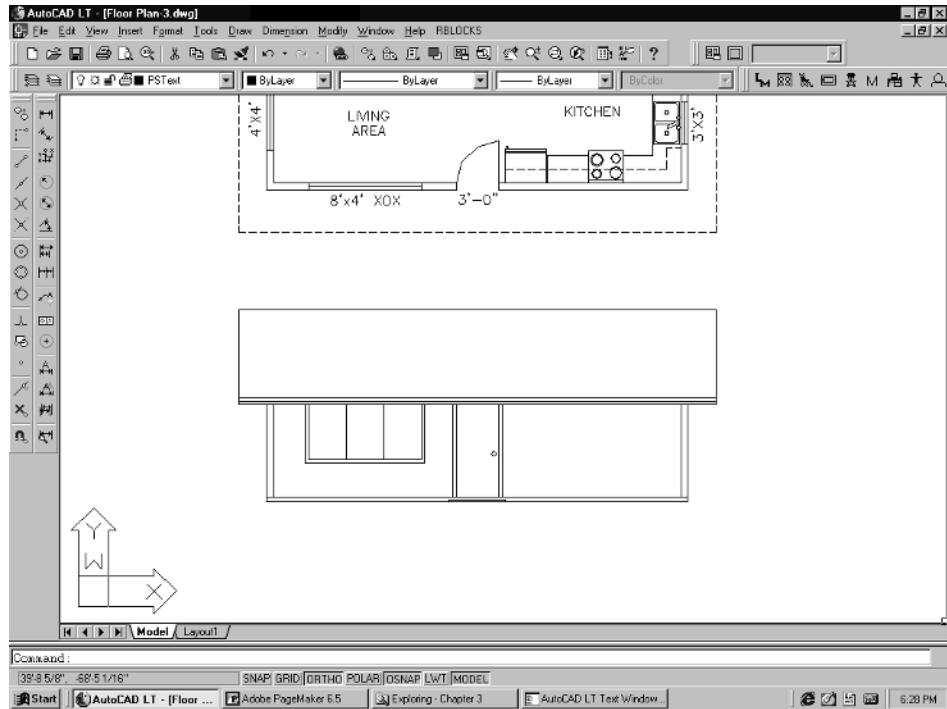

Figure 4-13
3. Offset the eave line 6" to form the fascia. If the fascia overlaps the window and door lines, you will need to trim out these lines. You can add details, like the 1x4 fascia trim or some corner boards. Your drawing should look similar to Figure 4-13.